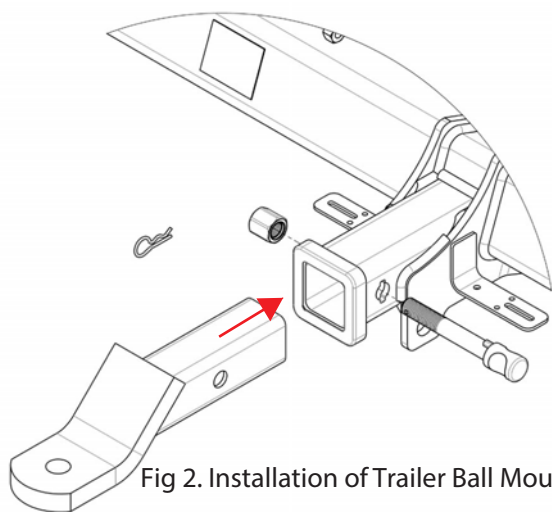

Fig 2. Installation of Trailer Ball Mount
- d. Remove 2 torx screws behind plastic wheel guard on both sides, refer figure 2.
**Figs 2 remove torx
Insert Trailer Ball Mount (TBM) into towbar HITCHBOX, aligning hole in TBM SHANK with hole in HITCHBOX (Fig 2).